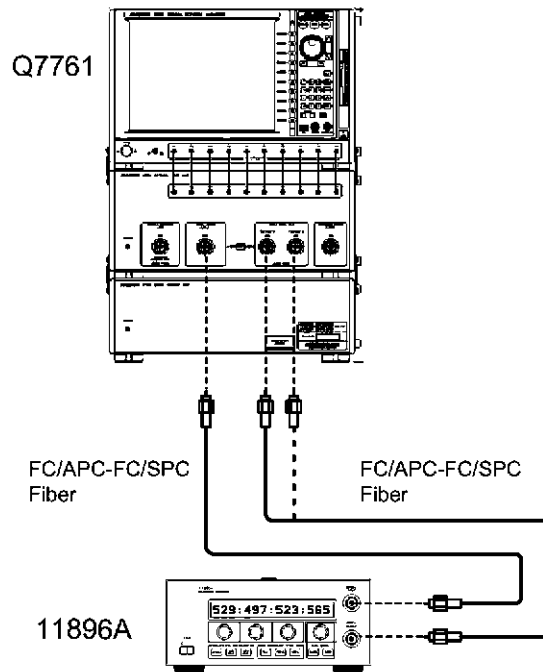

Figure 2-10 Connection for Polarization Dependency (POWER Measurement Mode) Test
1. As shown in Figure 2-10, connect the “OPTICAL OUTPUT” of the polarization controller with “TEST PORT 1” of this instrument, using the FC/APC-FC/SPC optical fiber.